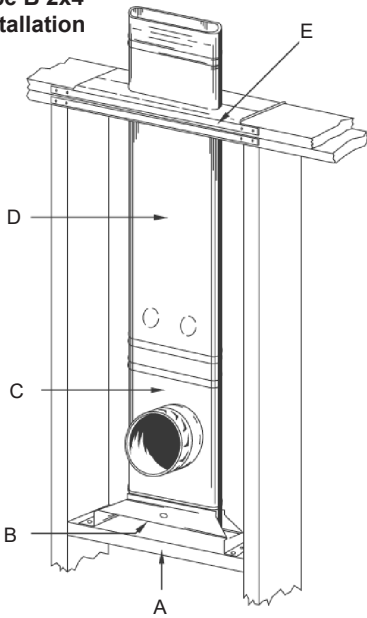

Fig. 40
5. The Firestop Spacer (FS) must be installed at each floor level. See Figure 40.
NOTE: Only the straight Vent Pipe Sections, with or without the Oval Tee, may be used inside the stud bay with reduced clearances to combustibles. See Figure 40.
2. Nail a 2x4 support (A) at the desired height between the studs. See Figure 40.
3. Attach the Tee Support (B), the Tee (C)
with the Oval Tee Cap, and the Vent Pipe (D) as shown on Figure 40.
4. At each floor level above the Tee, install the Firestop Spacer (E) seen in Figure 40.